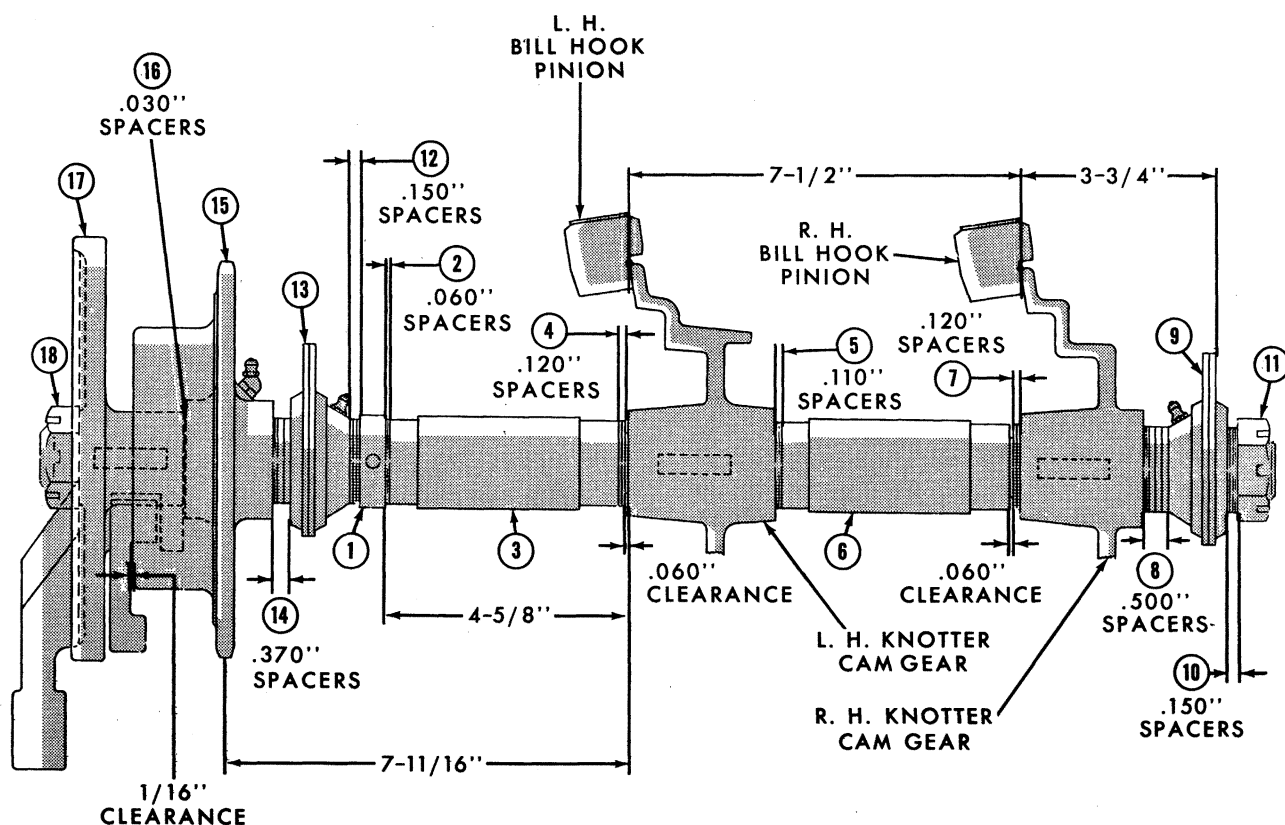

Figure 4
If the knotter assembly cannot be adjusted by means of the adjusting nut or requires new parts, remove the assembly from the baler and disassemble it. Then reassemble and install it per the following procedure and in the order listed. Doing so will prevent time consuming trial and error assembly methods. Refer to Figures 4 and 5 during the assembly procedure.
1. Install the locking collar (1), Figure 4, on the knotter shaft by installing the rolled pin through the collar and shaft.
11. Tighten the adjusting nut (11), Figure 4, to remove all end play in the knotter stack, then loosen the nut 1/12 to 3/12 of a turn and install the cotter pin through the nut and shaft. If the cotter pin cannot be installed, it may be necessary to remove one or more of the spacers (10).
13. Install .150" spacers (12), Figure 4, next to the collar (1), then slide the left-hand flanged bearing assembly (13) on the shaft.
15. Install approximately 0.370" spacers (14), Figure 4, on the knotter shaft, then install the clutch sprocket (15).
16. Measure the 7-11/16" dimension between the the machined surface of the left-hand knotter cam gear and the center of the teeth on the clutch sprocket, while holding the sprocket against the spacers (14). The dimension is used to determine if the clutch sprocket is properly aligned with the drive sprocket. A tolerance of plus or minus 1/32" is acceptable. If necessary, remove the sprocket and add or remove spacers (14), as required to obtain the 7-11/16" dimension.
17. Install approximately 0.030" spacers (16), on the knotter shaft, then install the key and the knotter cam assembly (17).
18. With the cam assembly held against the spacers (16), check the 1/16" clearance between the